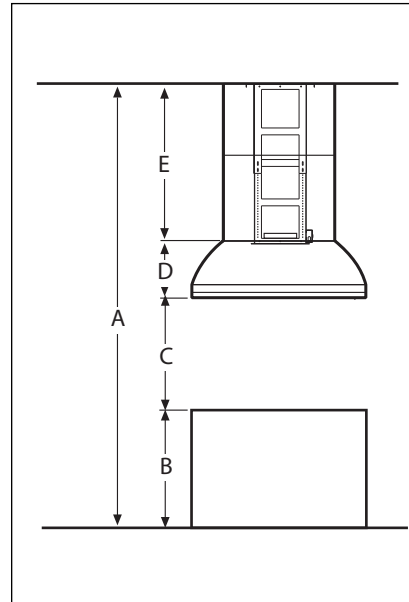

FIG.1
A typical hood installation is shown below in Figure 1. When installed with the IVCK chimney accessory kit, the hood can be installed at a height of 30" to 36" in kitchens with ceiling heights ranging from 8-1/2 to 10 feet. Installations outside this range will require custom framing. Consult a qualified installer for a custom framing solution.
See Figure 1.
See Fig. 1. Do not use duct smaller than specified.
4. Install 1/2" electrical conduit in location marked on template and extend length E minus 3-1/8" (E – 3-1/8") from ceiling (use formula in Fig. 1).